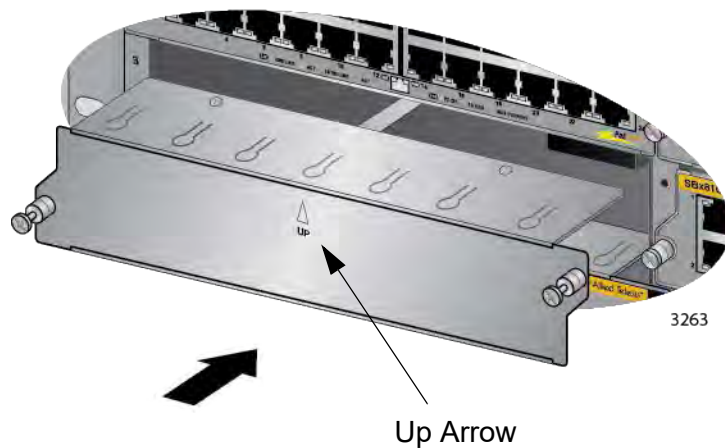

Figure 97. Installing a Blank Slot Cover
1. Position a blank slot cover over an unused slot, as shown in Figure 97. The up arrow on the panel must be pointing up.